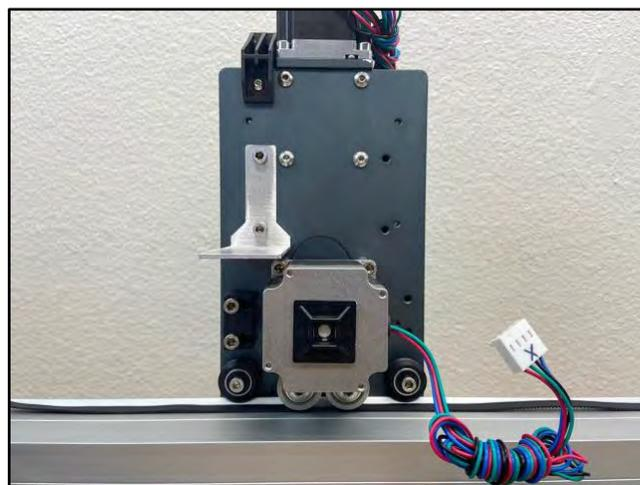

Figure 17
- b. Use a 4mm hex key and four (4) M5×10mm SHCS to secure. See *Fig. 17*.